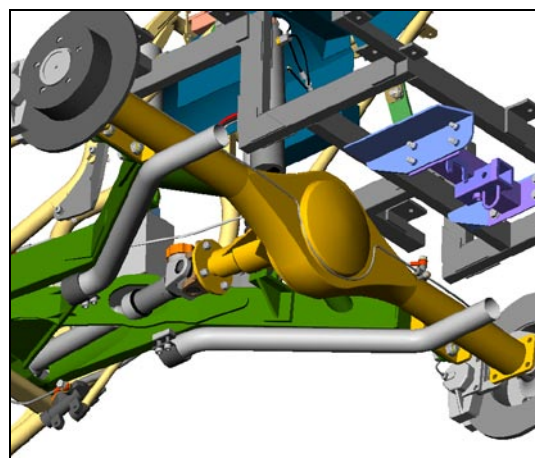

Figure 45
- a. Install left and right Exhaust Extensions to vehicle exhaust collector with supplied exhaust clamps. Do not tighten clamp at this point. Figure 45